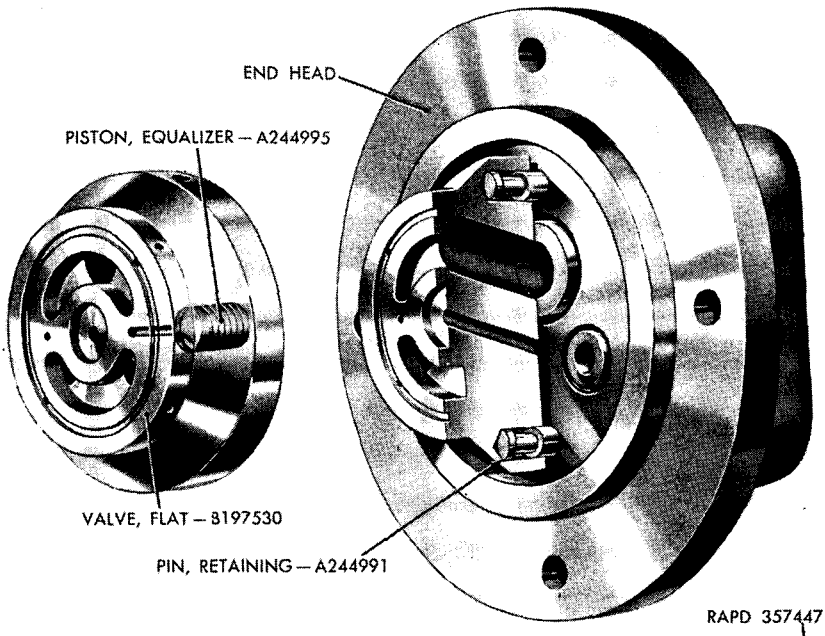

Figure 18. Cross section of hydraulic pump and motor flat valve.
- (1) *Radial piston pump.* The variable-delivery hydraulic pump consists essentially of a stationary, balanced flat valve (fig. 18); a ported drive shaft with an integral cylinder having 14 closely fitted rolling pistons; a roller bearing; a slide block race, and a hydraulic servo motor control mechanism. As the drive shaft and cylinder rotate on 2 antifriction ball bearings, centrifugal force keeps the beveled surfaces of the 14 rolling pistons against the inner race of the roller bearing at all times. The inner roller bearing race rotates with the cylinder and drive shaft through contact of the 14 rolling pistons. The slide block race moves on two sets of caged rollers between ground surfaces on the slide block race and plates in the pump case, and is actuated accurately to the left or right of the drive shaft axis by a hydraulically operated control cam. Increasing the eccentricity of the slide block race increases the stroke of the rolling pistons and the volume of oil discharged. Reversing the eccentricity of slide block race reverses the direction of oil flow.
- (1) *Radial piston motor.* The constant displacement hydraulic motor consists essentially of a cover, case, and end head (fig. 21), which enclose a balanced flat valve (fig. 18), a ported drive shaft with integral cylinder mounted on two antifriction ball bearings, 14 rolling pistons closely fitted to radial holes in cylinder, and a roller bearing. As fluid power from the hydraulic pump enters the hydraulic motor, the hydraulic motor shaft and cylinder rotate on two antifriction ball bearings. Oil under pressure below the pistons plus centrifugal force keep the beveled surfaces of the pistons against the inner race of the roller bearing. The outer roller bearing race is fitted in the hydraulic motor case at a fixed eccentricity to the center line of drive shaft to provide piston stroke. The inner roller bearing race rotates with the cylinder and drive shaft through contact of the rolling pistons.
- (2) *Motor flat valve and end head.* Back-up pistons and springs in the motor end head, combined with the hydraulic pressure on the back-up pistons in the end head and their hold-down tumblers, hold the flat valve against the end of the drive shaft. Two equalizer pistons in the flat valve balance the hydraulic force which tends to separate flat valve from end of drive shaft. The shoulder pins pressed into motor end head and two locking pins hold flat valve in place for convenience in assembly (fig. 18).